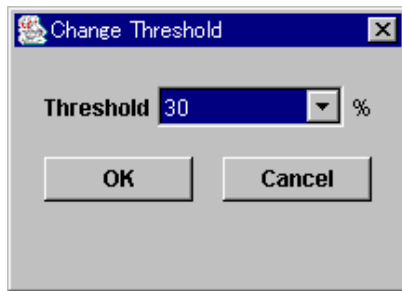

Figure 7.12 The Change Threshold Dialog Box
2. In the tree, right-click an HDD class folder and then select **Change Class Threshold** from the pop-up menu. The **Change Threshold** dialog box is displayed (Figure 7.12).